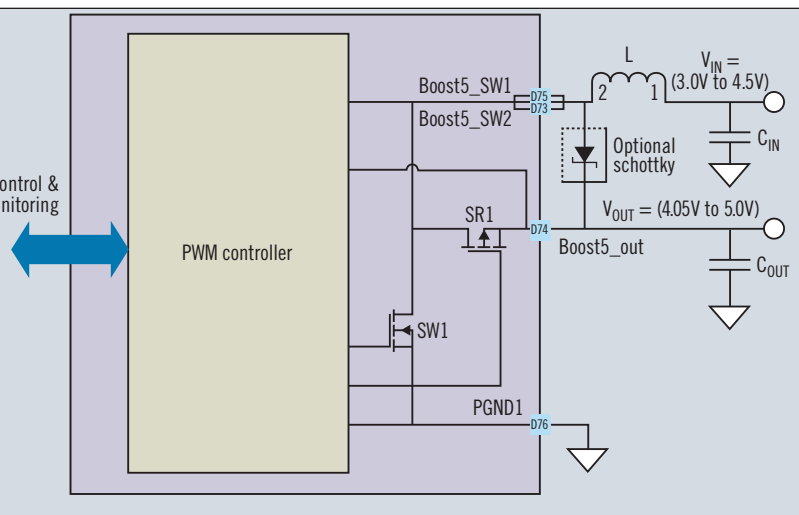

Fig. 5. The BOOST5 module contains an internal NMOS switch and PMOS synchronous rectifier. It can supply 5.0V at 700mA
As shown in Fig. 5, there is a direct path from V_{IN} through the external inductor (L) into the BOOST5_SWn pins, through SR1 to the BOOST5_OUT pin, which directly charges the output capacitor (COUT) to $\sim V_{IN}$. During startup, the converter continues